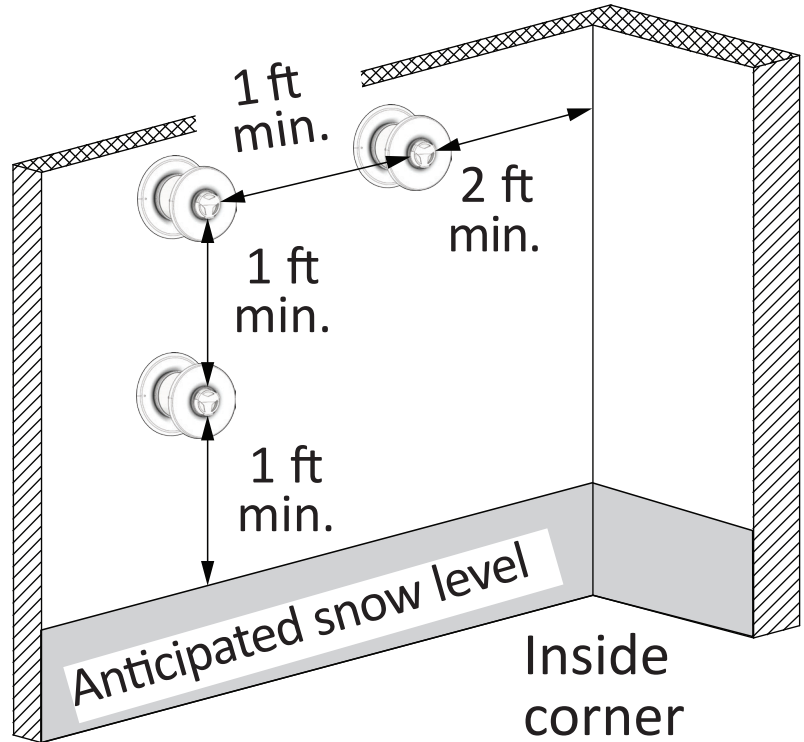

Figure 14 - Multi-Unit Concentric Wall Terminations (TI Indoor Models)
- Space each concentric wall terminations at least 1 ft. away from each other, no matter the orientation. A concentric wall termination must also be at least 2 ft. away from an inside corner. If the adjacent wall is less than 2 ft. in length, the minimum required distance away from the inside corner will be equal to the length of the adjacent wall (Figure 14).